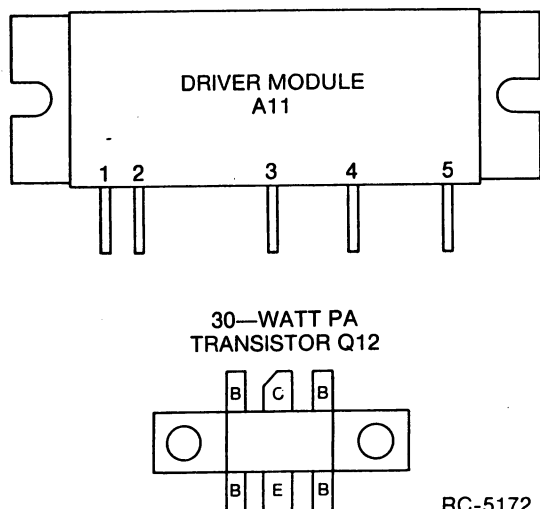

Figure 2 - Driver & PA Lead Identification
1. Position the module properly, aligning the screw holes and leads with the printed board. Trim leads if necessary (see Figure 2).